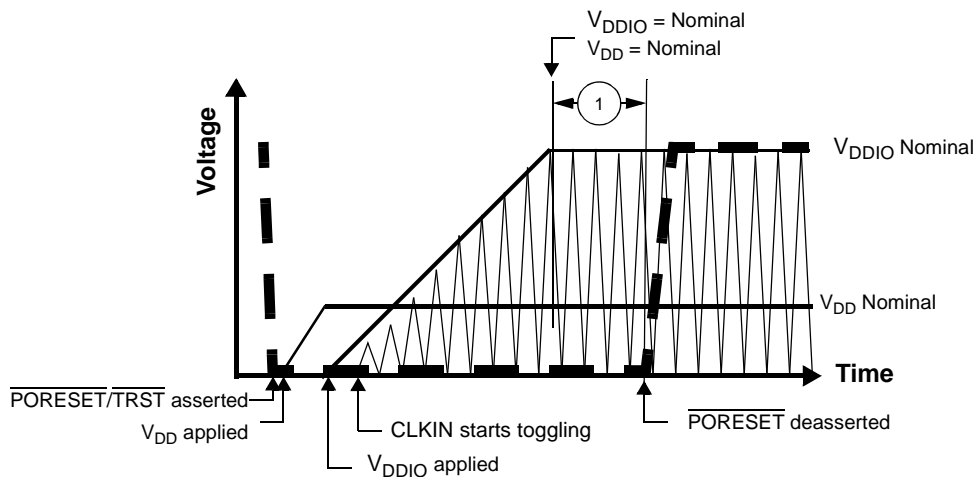

Figure 33. Supply Ramp-Up Sequence with V_{DD} Ramping Before V_{DDIO} and CLKIN Starting With V_{DDIO}
- CLKIN should toggle at least 32 cycles before $\overline{\text{PORESET}}$ deassertion to guarantee correct device operation. The 32 cycles should only be counted from the time after V_{DDIO} reaches its nominal value (see timing 1 in Figure 33).
Figure 33 shows a sequence in which V_{DDIO} ramps-up after V_{DD} and CLKIN begins to toggle with the raise of V_{DDIO} supply.